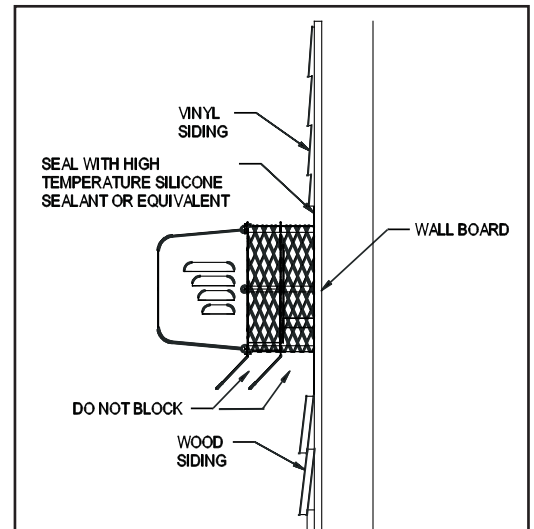
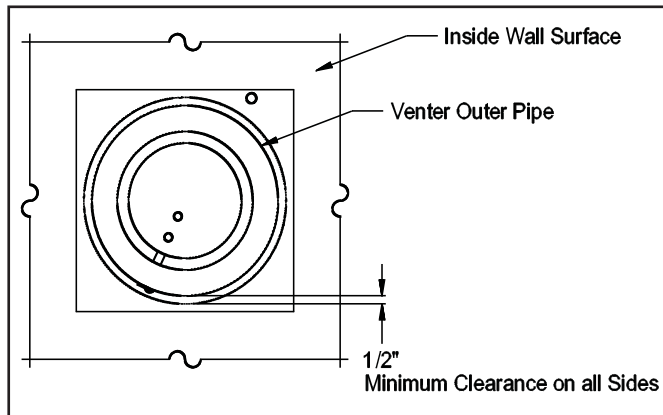

Figure 2
Figure 3
3. After determining the location of the venting system termination point (See Diagram A), cut a square hole through the wall at least 1" larger than the outer pipe diameter of the power venter. Mount the power venter through the wall, keeping the outer pipe centered in the hole. (See Figure 3) Fasten the power venter to the outside wall with appropriate fasteners, sealing the edges of the power venter base plate to the wall with a high temperature silicone sealant. DO NOT enclose the spaced plates on the power venter body. This will result in reduced cooling of the power venter body. Wood or vinyl siding should be cut so that the unit mounts directly on the wall board to provide a stable support. If the siding is greater than ½" thick use a spacer plate or board behind the power venter mounting plate. (See Figure 2)
NOTE: If mounting the power venter through a combustible wall material and the flue gas temperature is above 400°F at the power venter inlet, line the square hole with a piece of corrosion resistant sheet metal or non-combustible material. The liner piece should be the same width as the wall section. (See Figure 3) The power venter has a maximum flue gas temperature of 550°F at the venter inlet. For installation in wall thicknesses over 8 inches, use SWG Series Through Wall Extension Kit, Model PEK.